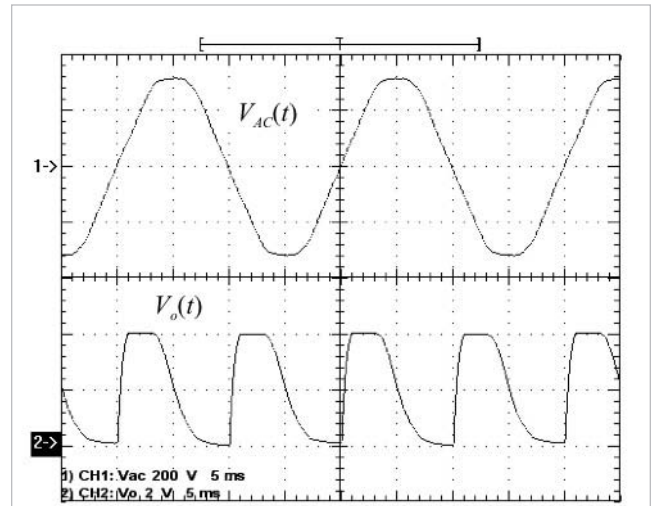

Figure 3 Empirical results are shown for $V_{AC}=230V_{RMS}$, $C=0.5$ nF, and $R_1=560$ k Ω .
- For $V_{AC}=230V_{RMS} \pm 20\%$ (**Figure 3**): $C=0.5$ nF/400V (MKT-HQ 370 polyester metallized, MKT series), $R_1=560$ k Ω /0.25W, $t_{DELAY}=114$ μ sec (the time delay in the rising edges of V_o with respect to the zero crossings of V_{AC}), and $P \approx 100$ mW (average power from the ac line).